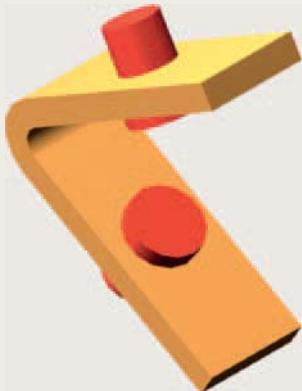
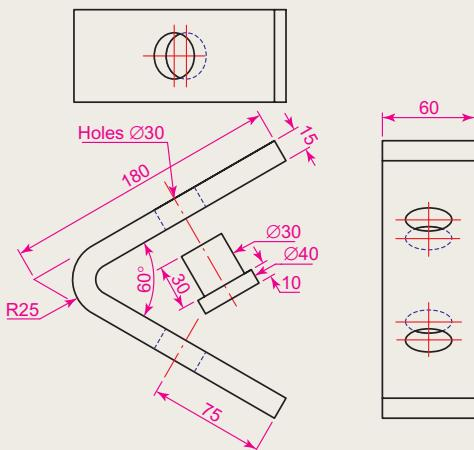

Fig. 17.33 Exercise 1 – a rendering
Fig. 17.34 Exercise 1 – details of shape and sizes
- Fig. 17.33 is a rendering of a two-view projection of an angle bracket in which two pins are placed in holes in each of the arms of the bracket. Fig. 17.34 is a two-view projection of the bracket.